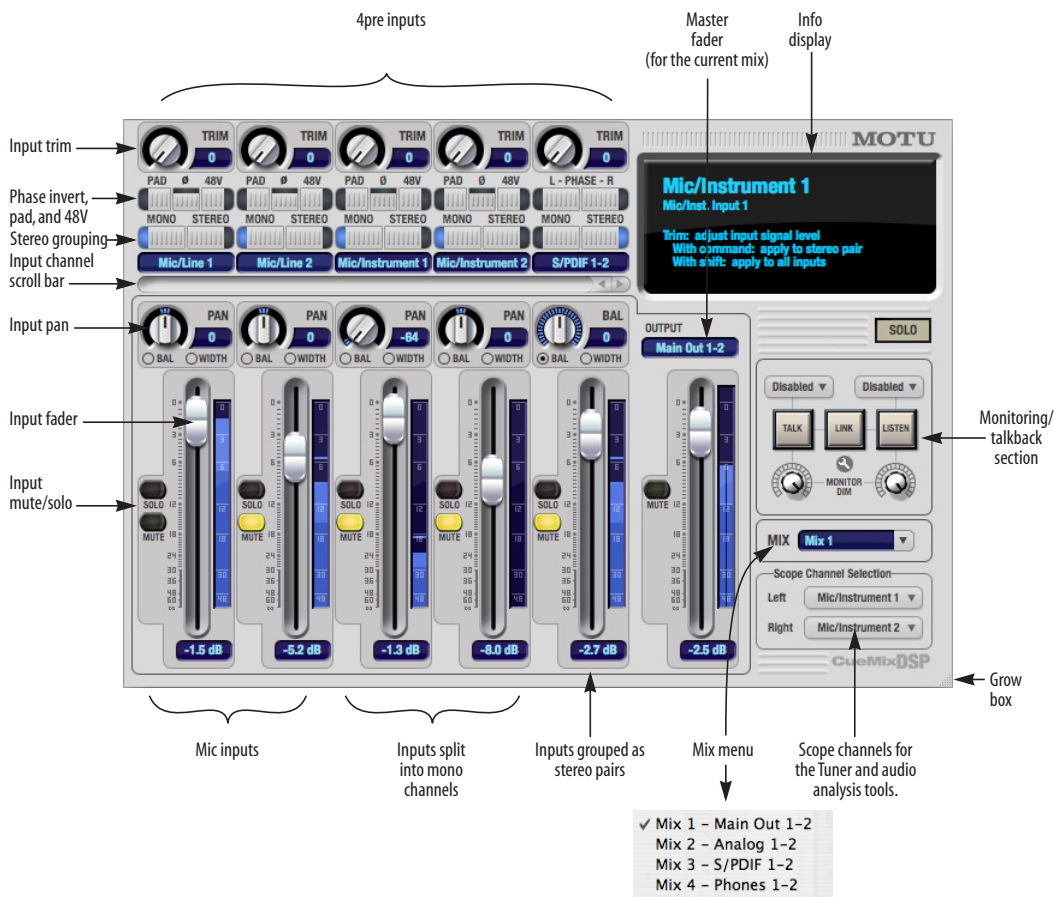

Figure 9-1: CueMix FX is a virtual mixer that gives you control over the 4pre's on-board mixing features.
CueMix FX displays one mix at a time. To select which mix you are viewing, choose it from the mix menu (Figure 9-1). Click the mix name to change it. The mix output pair appears above the mix master fader (Figure 9-1).
To view more input faders at once, drag the grow box (Figure 9-1) to the right.
To view a mix, choose it from the *Mix* menu (Figure 9-1). The menu shows all mixes by name, followed by the audio interface's output pair that it corresponds to.
The master fader (Figure 9-1) controls the overall level of the mix (its volume on its stereo output). Use the individual input faders to the left to control individual input levels.
The mix mute button (Figure 9-1) disables (silences) the mix.
The *Inputs* section (Figure 9-1) gives you access to individual 4pre inputs (or input pairs). Unmute the input and bring up its fader to hear the input on the current mix's output. Mute, solo, and pan are also provided for each input channel.
The *Phase* button (Figure 9-1) inverts the phase of the input signal. For stereo pairs, you can invert the phase for the left and right channels independently. For the mic/instrument/line channels, click the phase button (\emptyset) repeatedly to cycle among two states for mono channels (on or off) and four states for stereo grouped channels (no inversion, left only, both, or right only).
Click the *Mono* button (Figure 9-1) if you would like an input to be treated as a mono channel. If you would like to work with it as one channel of a linked stereo pair, click the *Stereo* button. Inputs are grouped in odd/even pairs (Mic/instrument 1-2, Mic/Line 1-2, etc.) Stereo pairs appear as a single channel strip in the CueMix FX mixer.
Click the input name at the top of the input channel strip (Figure 9-1) to edit the name. Input names are global across all mixes. This name also appears in host audio software on the computer (if the software supports channel names).
The pan knob (Figure 9-1) for each input pans the input across the mix's stereo outputs. If the input itself is grouped as a stereo pair, two forms of panning control are provided:
Use the input fader (Figure 9-1) to adjust the level for the input in the mix. Note that an input can have different level, pan, mute and solo settings for each mix. Input channel level meters are post-fader.
The *Scope channel selection* menus (Figure 9-1 on page 54) let you choose what input channels will be fed to the CueMix FX audio analysis (scoping) features. See “Devices menu” on page 59.
- 1 Select the source mix (Figure 9-1) and choose Copy from the Edit menu (or press Command-C).